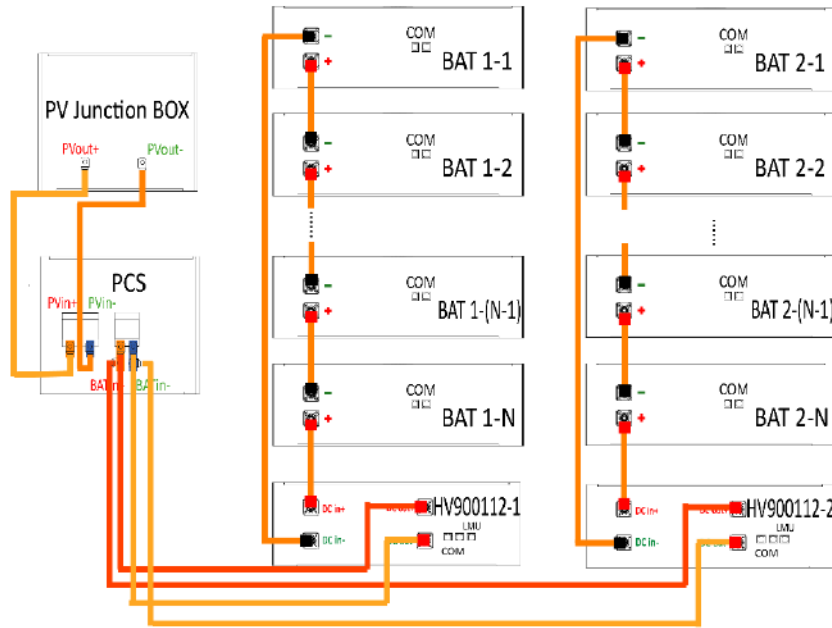

Figure 4.17 Battery side-power cables connection without junction box
- If there are only one or two clusters, you don't need the junction box. The battery DC positive and negative port of HV900112 can be directly connected to the BAT+ and BAT- of PCS as Figure 4.17 shows.